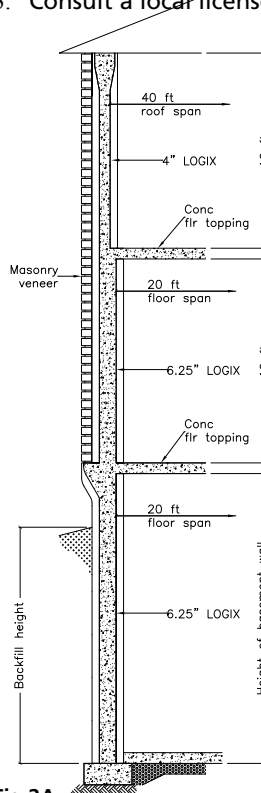

Fig 2A
- Figures 2A, 2B, 2C and 2D, Below-grade wall sections
LOGIX below-grade Tables 1A to 1D shall be used in conjunction with corresponding Figures 2A to 2D, the notes listed below, and the building limitations noted in the "Reinforcement Tables" section, which form the basis of these tables.
- Table 1A shall be read in conjunction with Fig 2A, and section "Notes for Below-grade Wall Tables."